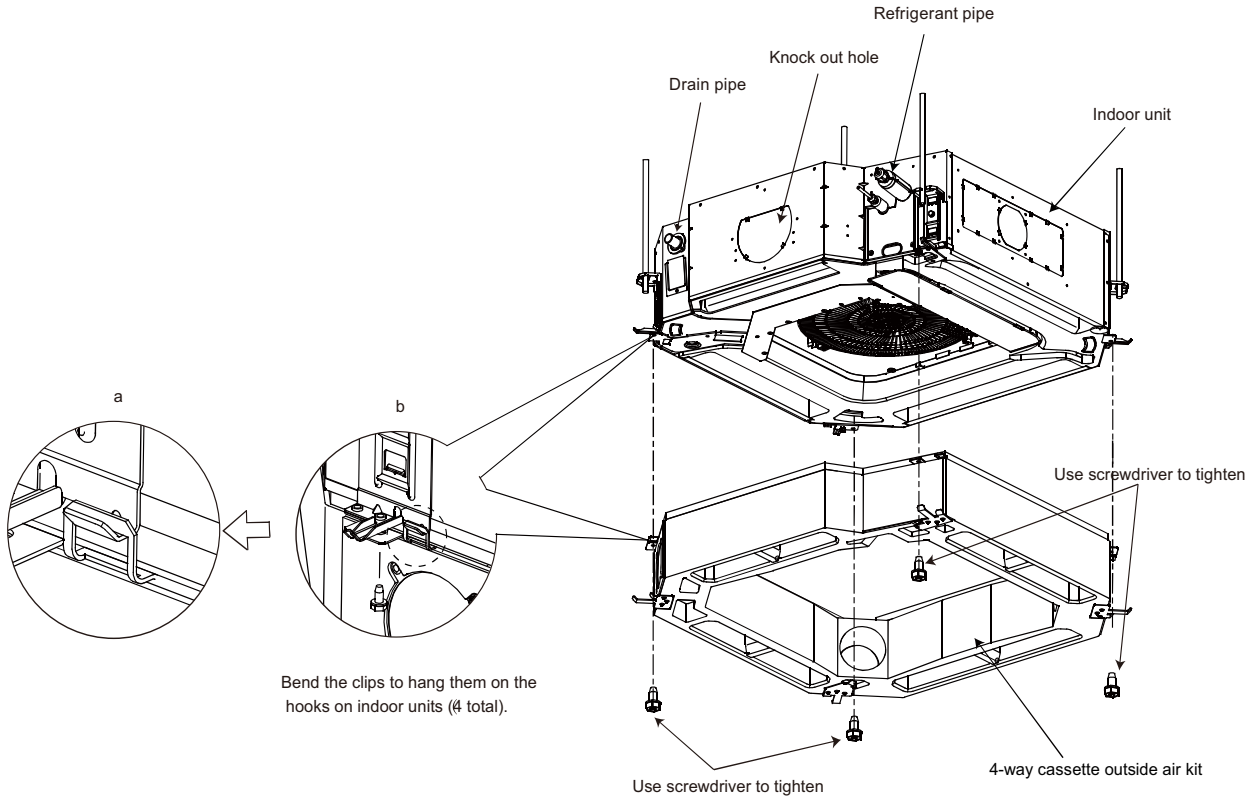

Fig. 7 —Align Openings and Clip the Kit
Before installing the outside air kit, align all of the openings before clipping on the kit as shown in Fig. 7, Section a.
3. Once the kit is in place, use the screws to create a tight seal as shown in Fig. 7, Section b.